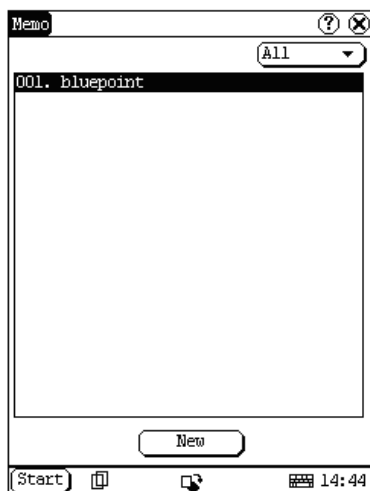

Fig 4-12
- 1) In the pop-up 'PIM' list, select 'Memo' to open the Memo interface. (See Fig 4-12)